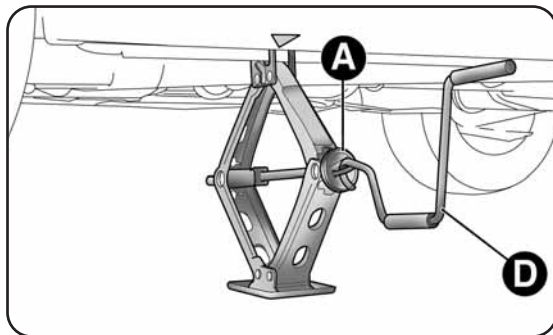
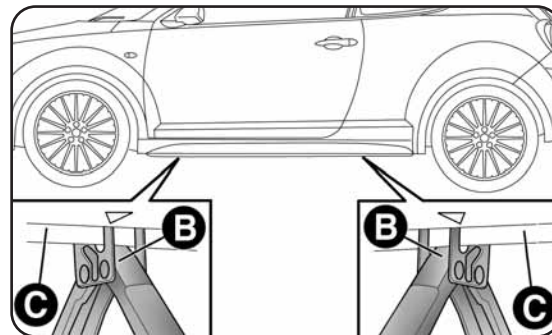

fig. 7
fig. 8
- operate device A-fig. 7 to extend the jack, until the upper part B-fig. 8 inserts correctly into device C;
- insert handle D-fig. 7 into the housing on device A, operate the jack and lift the vehicle until the wheel is several centimetres off the ground;
- operate jack handle D-fig. 7 to lower the vehicle. Remove the jack;